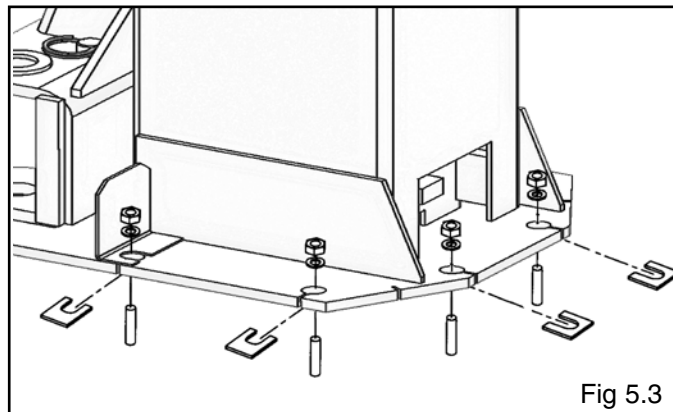

Fig 5.3
5. If shimming is required, insert the shims as necessary under the base plate so that when the anchor bolts are tightened, the posts will be plumb. (See Fig. 5.3)